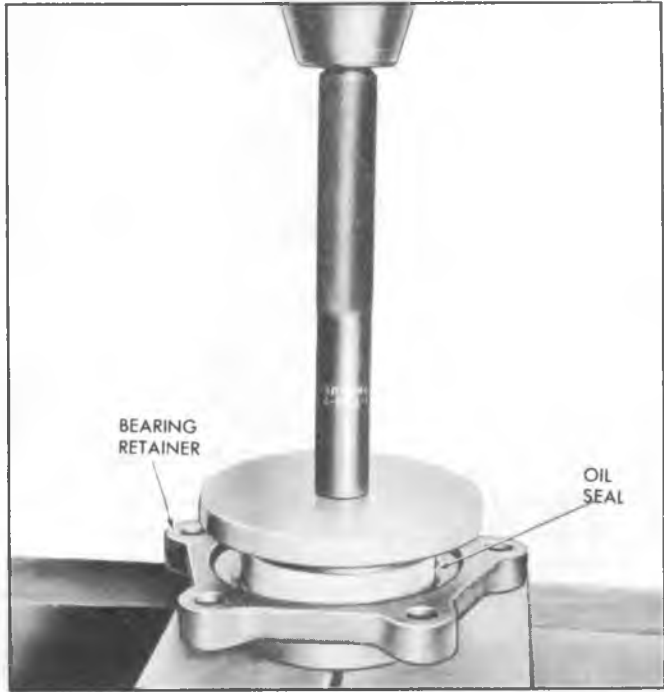

Fig. 15M--Installing Oil Seal in Input Shaft Bearing Retainer With Tool J-8477
2. Start new seal straight in bore in cover and, using 1-1/2" rod, tap seal flush in counterbore in cover (fig. 15M).